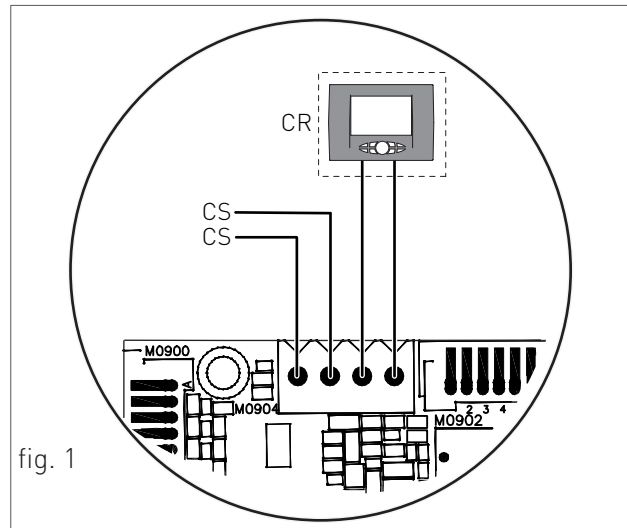

fig. 1
- To disable the D.H.W. mode by contact, connect the two non-polarized conductors (for example a temperature thermostat or a solar control unit) to the 'CS' contacts of the terminal block (see fig. 1). It is possible to enable/disable the burner ignition request in D.H.W. mode in the following ways: (Example 1) - With 'CS' D.H.W. contact open, upon D.H.W. request, the flow-meter activates and the water heater starts. (Example 2) - With 'CS' D.H.W. contact closed, upon D.H.W. request, the flow-meter activates but the water heater doesn't start.
- For remote control, connect the two non-polarized conductors of the remote control (see 'CR' fig. 1).